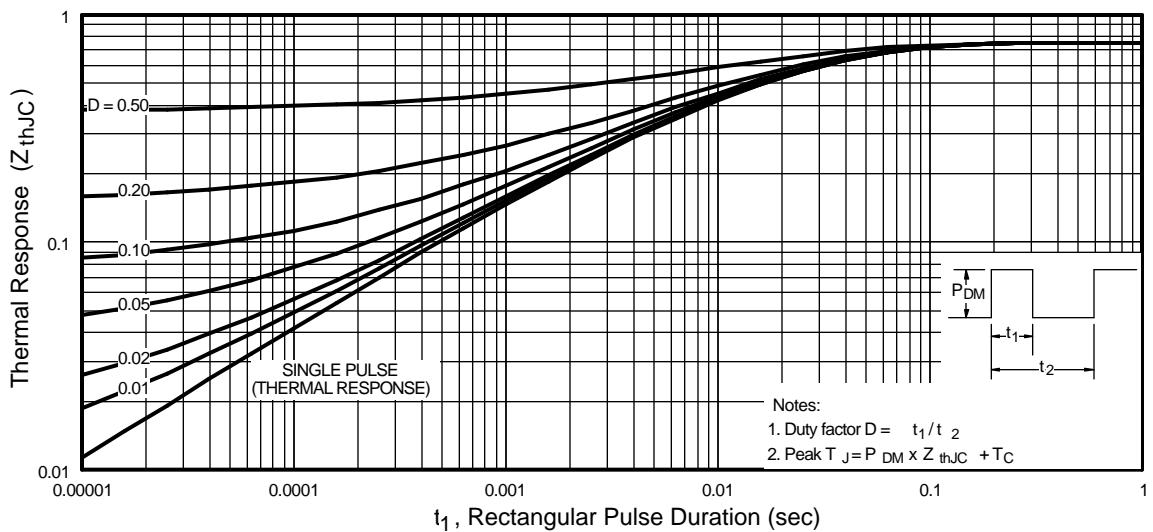

Fig 11. Maximum Effective Transient Thermal Impedance, Junction-to-Case
- ① Repetitive rating; pulse width limited by max. junction temperature. (See fig. 11)
- ② Starting $T_J = 25^\circ\text{C}$, $L = 0.66\text{mH}$